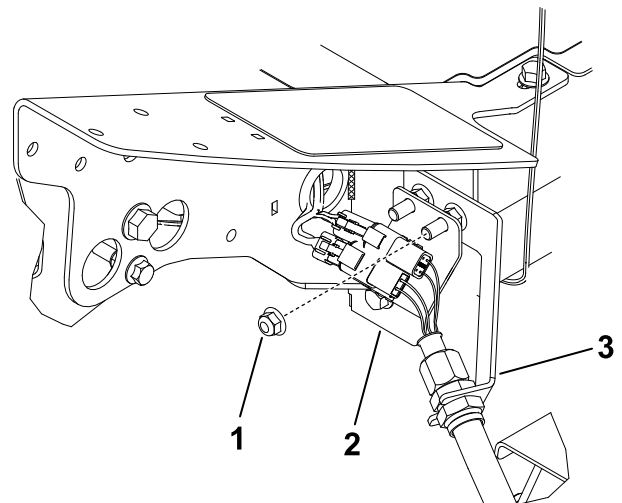

Figure 13
1. On the front left corner of the frame (#4 cutting unit location), remove the extra flange nut on the bolt securing the bulkhead bracket to the machine (Figure 13).
3. Insert the connector plate onto the bulkhead-mounting bolts with the connectors positioned as shown in Figure 13.